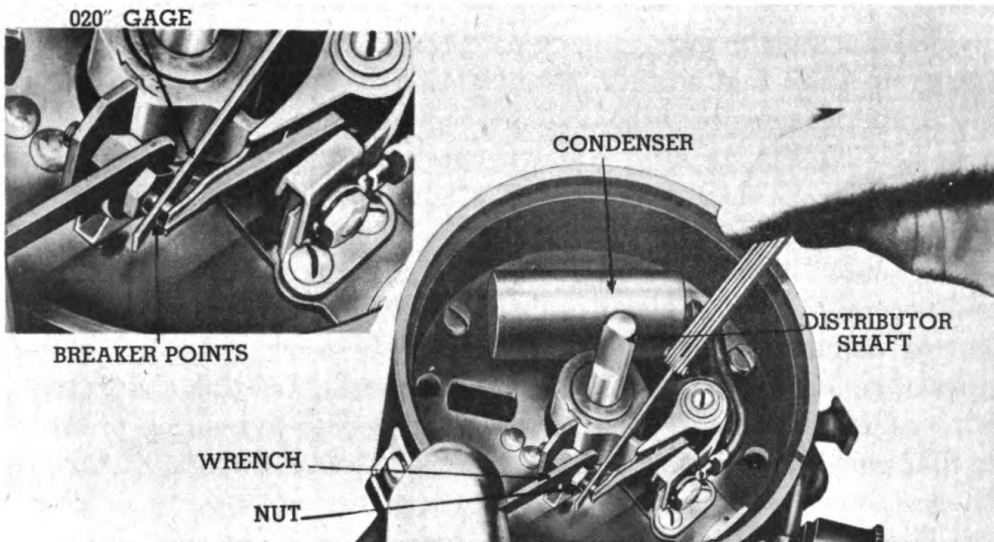

Figure 20—Adjusting Distributor Points .020 Inch Gap
c. Adjust distributor breaker points to open .020 inch. (Figure 20.) Check distributor cap and rotor for cracks and corrosion. Inspect the small lead wires for breakage or damaged insulation. Check for excessive play in distributor vacuum advance plate bearing.